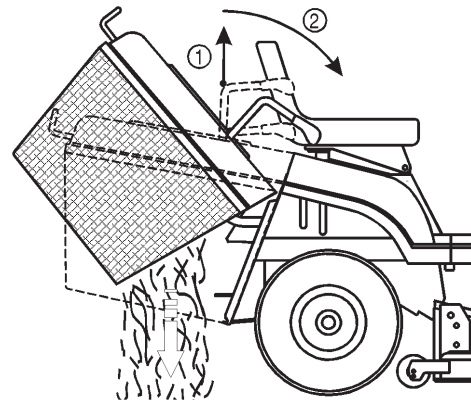

Figure 16
2. Pull out the telescoping dump lever and push it forward and down to empty the grass collector (Fig. 16).